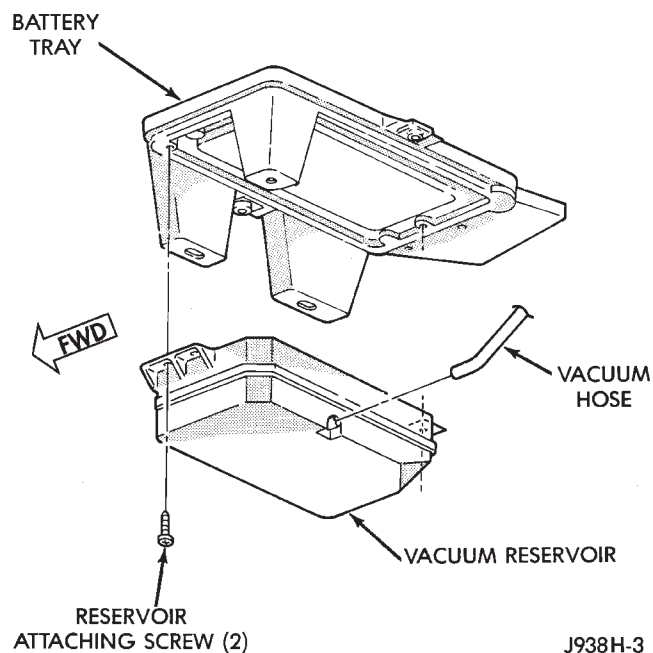

Fig. 4 Vacuum Reservoir
- (1) Disconnect battery cables, negative cable first.
- (2) Remove both battery holddown bolts.
- (3) Remove battery from vehicle.
- (4) Remove 5 screws holding battery tray.
- (5) Pull up battery tray and remove vacuum line from reservoir (Fig. 4).
- (6) Remove 2 screws holding reservoir to battery tray.